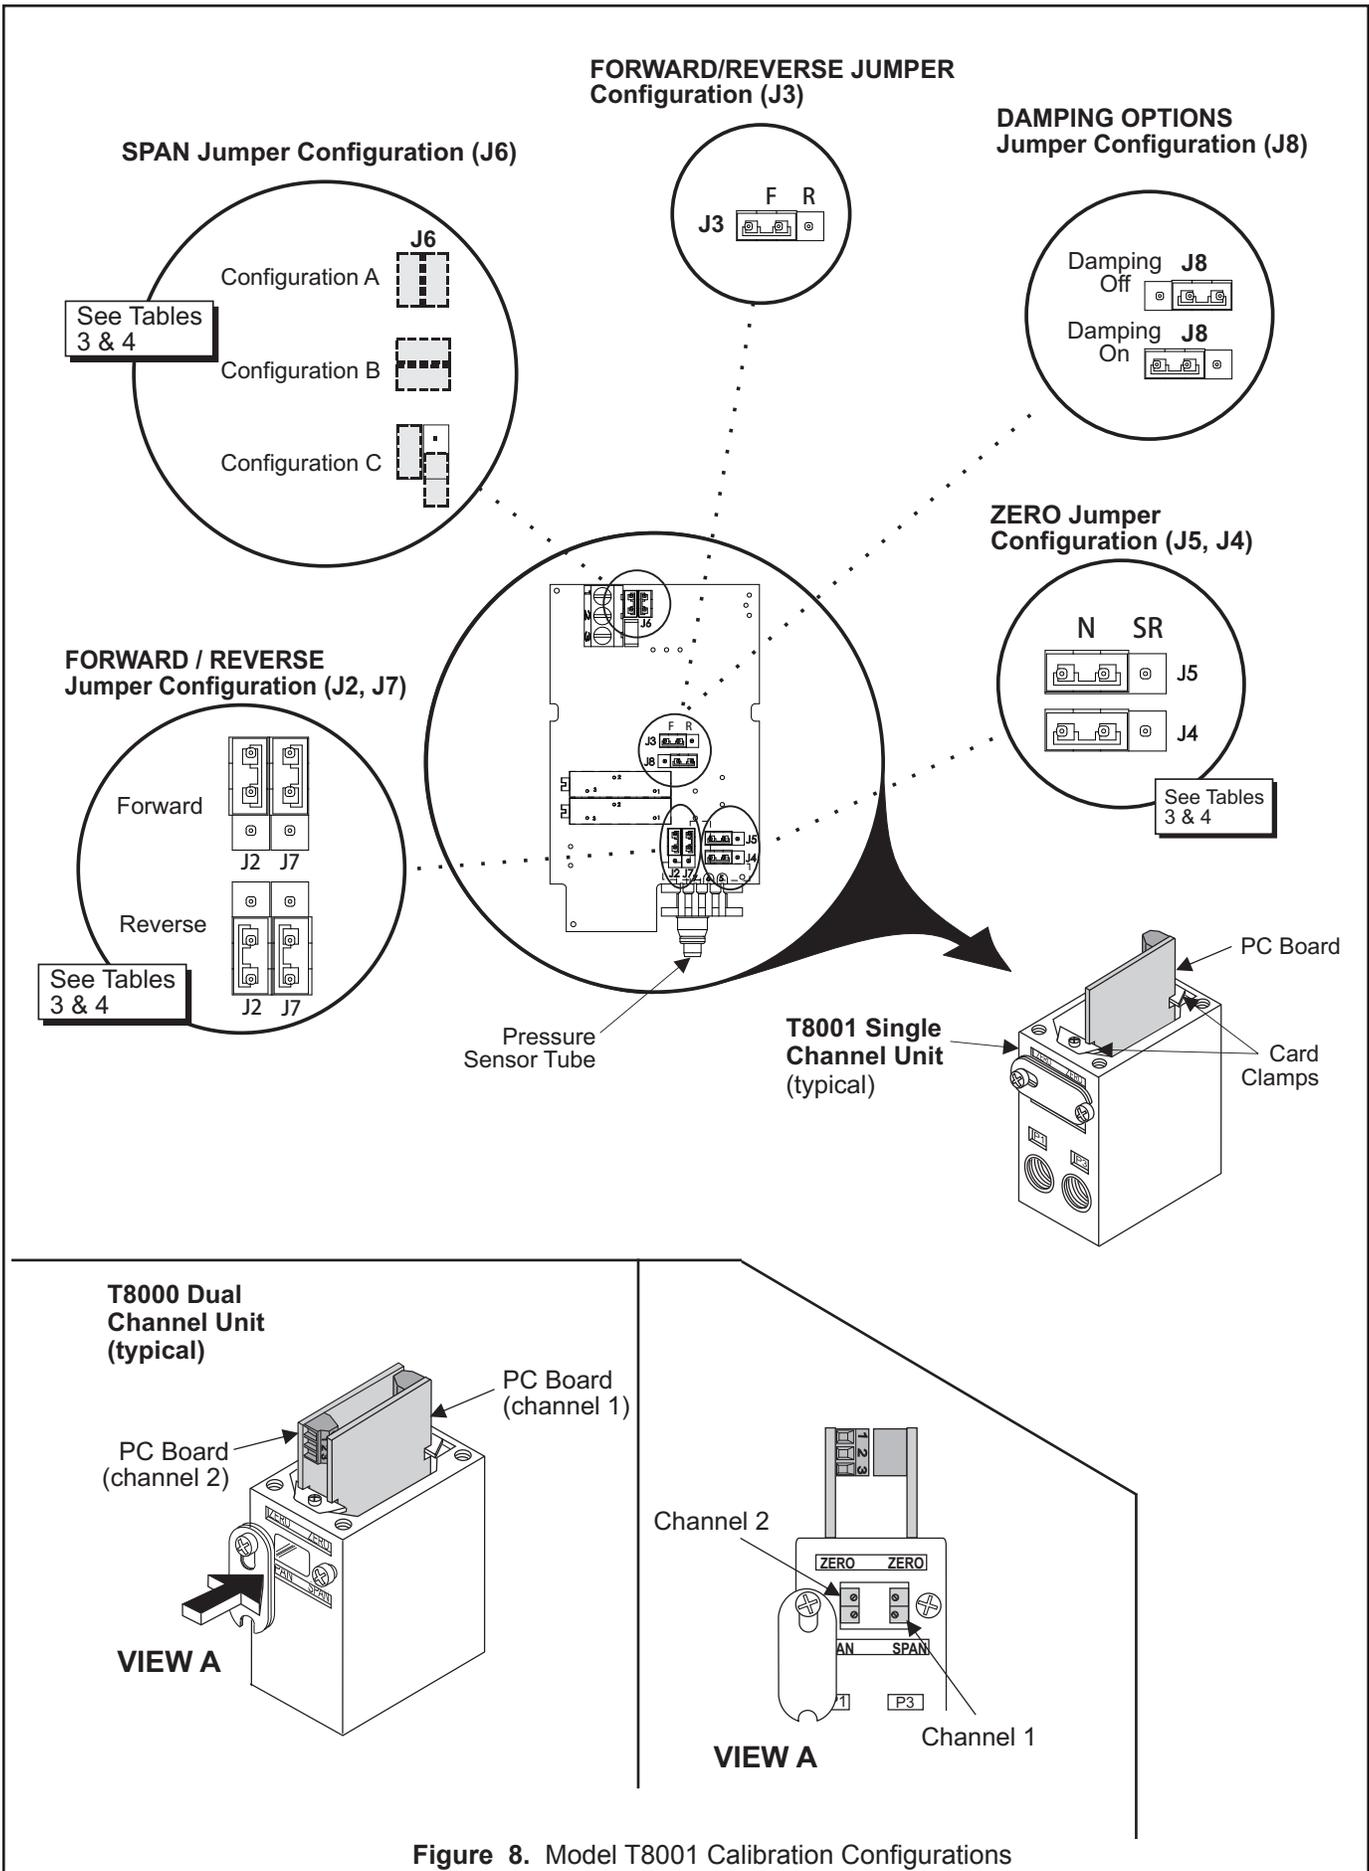

Figure 8. Model T8001 Calibration Configurations
Make connections to the Terminal Block, Conduit Connector, or the DIN Connector as shown in Figure 8.
For Forward and Reverse Mode Operation, see Figure 8. Ensure that the jumper settings are correct. For more information, see Table 3.
1. Set configuration jumpers per Table 3. See Figure 8.
4. Repeat steps 2 and 3 until you achieve the required output range. For more information, see Figure 8.
5. Set Configuration jumpers per Table 3. See Figure 8.
9. Repeat steps 7 and 8 until you achieve the required output range. For more information, see Figure 8.
Set the Damping Adjustment, jumper J8, for optimum response and stability in specific applications. For more information, see Figure 8.
Use the appropriate Forward or Reverse Acting configuration shown in Figure 8. Ensure that the jumper settings are correct. For more information, see Table 4.